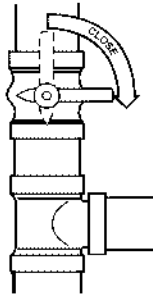

Fig. 4 - Close Valve
2. Close the external manual gas valve. See Fig. 4.
2. Close the external manual gas valve (See Fig. 4).